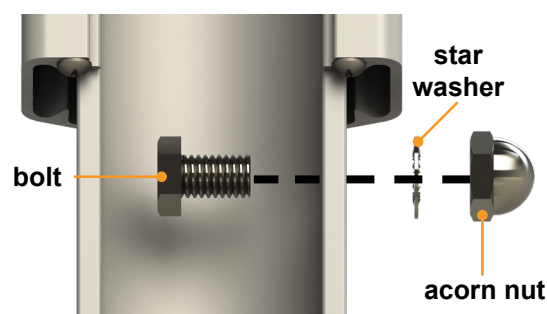

Fig.14
5. From the inside of the outer arm lower (Fig.13B), insert a 5/16" bolt through the hole. Secure with a star washer and a 5/16" acorn nut using 1/2" socket and wrench (Fig.14).